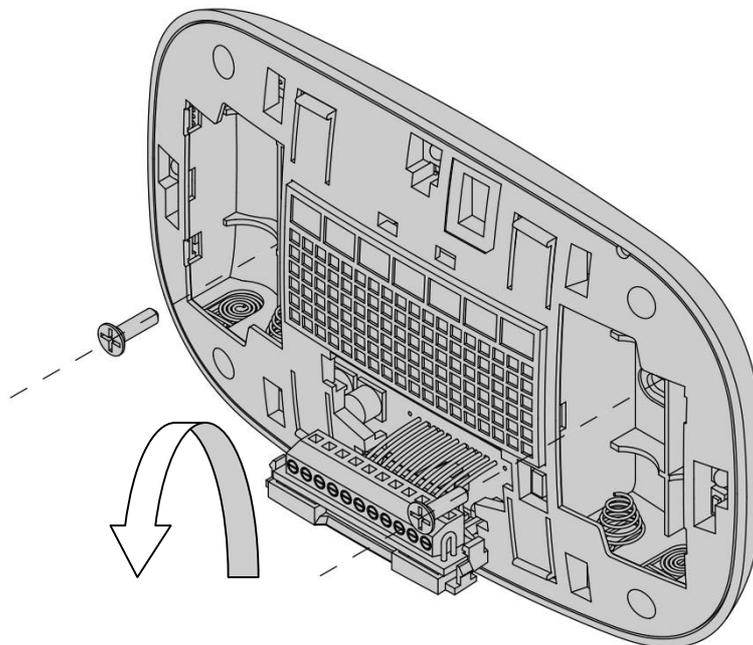

Figure 3. Open the terminal and mount into the wall
3. Open the terminal block of the ZTS-500 then insert all necessary wires through the back housing (Figure 3).
4. Fasten the back housing to the wall using the two included mounting screws. Insert the screws through the mounting holes in the housing and into the wall anchors (Figure 3).